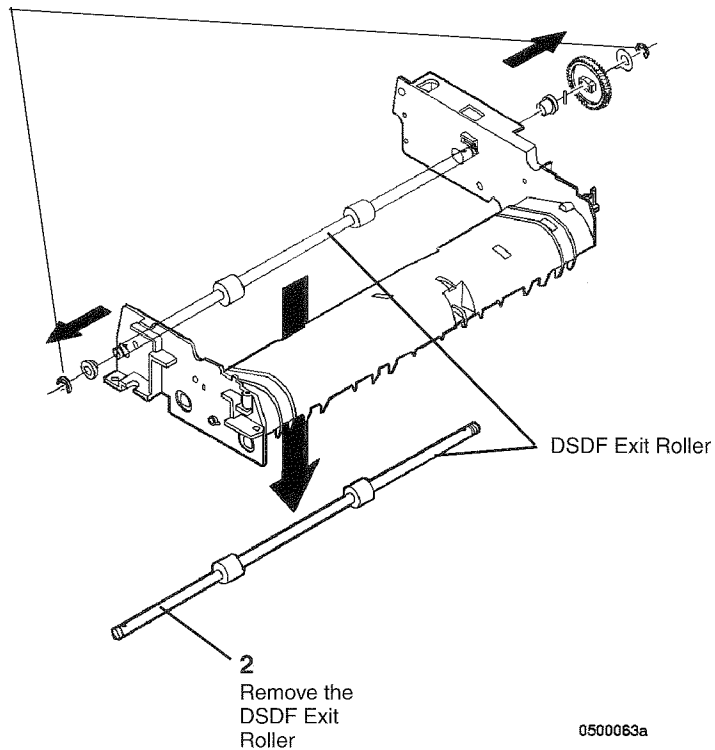

Figure 3 Removing the DSDF Exit Roller
7. ( Figure 3): Remove the DSDF Exit Roller